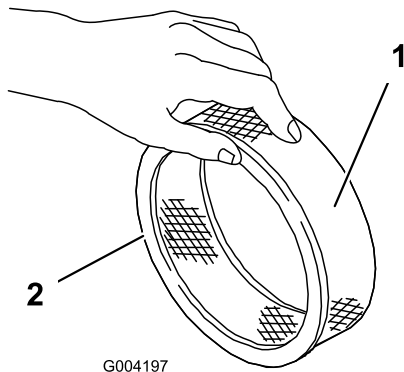

Figure 20
5. Lightly tap the paper filter on a flat surface to remove dust and dirt (Figure 20).
1. Carefully slide the foam pre-filter onto the paper filter (Figure 20).